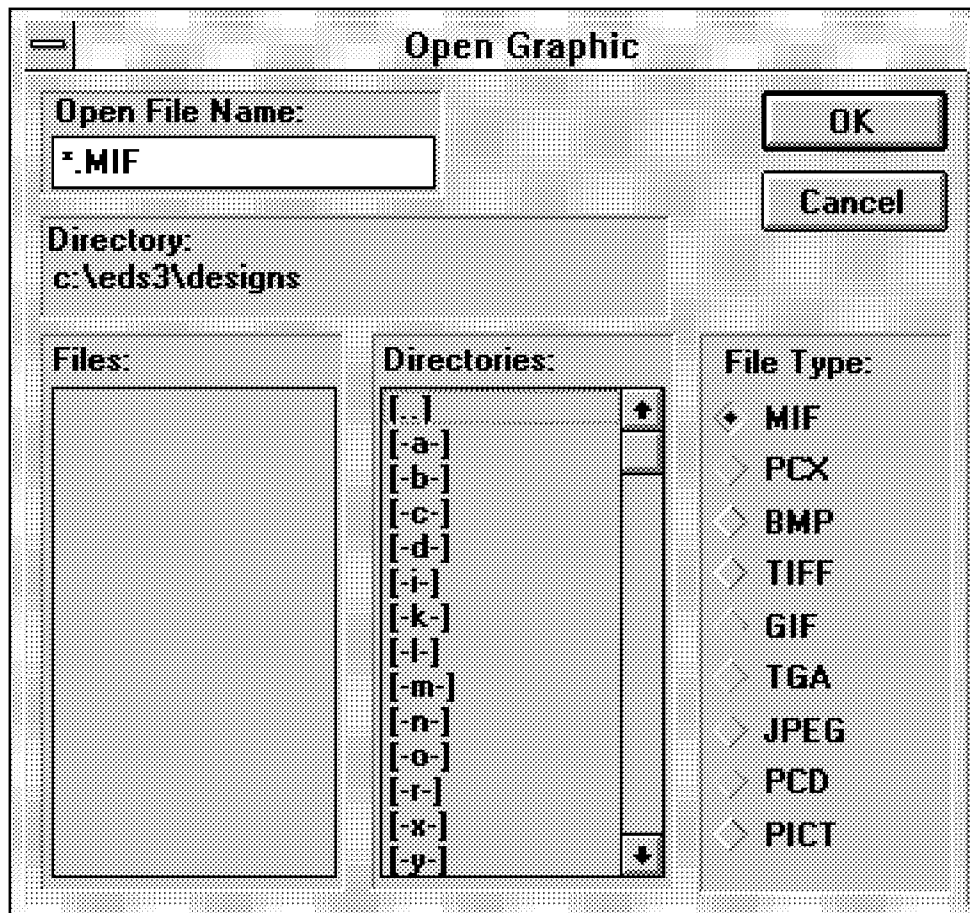

Figure 7-2
The Open Graphic dialog box will appear as shown in Figure 7-2. This dialog box allows you to locate the available graphic file types and file names in various directories of your computer.
6. Click in the diamond-shaped option button to the left of the file type you wish to load. This will put a dark highlight mark inside the button indicating that all files in the selected directory with this file type extension will be shown in the files list box. If no files are in the list box (as Figure 7-2 shows), no file with that extension is located in that directory.